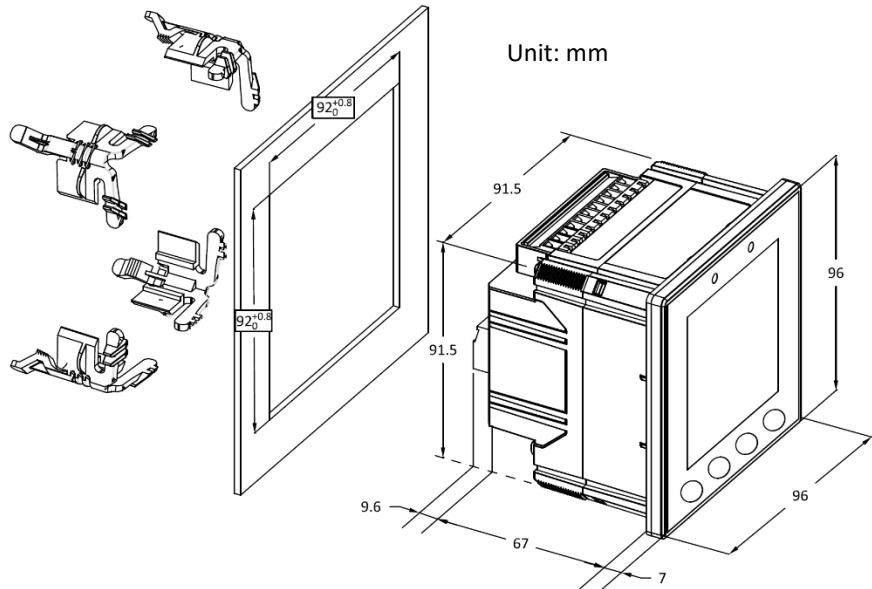

Figure 2-16 Panel Cutout Mounting
- Fit the meter through a 92x92mm cutout as shown in Figure 2-16